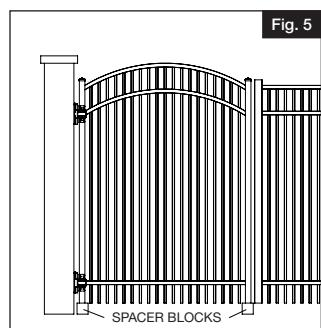

Fig. 5
- Set gate on spacer blocks and hold it level/plumb to the wall (Fig. 5).